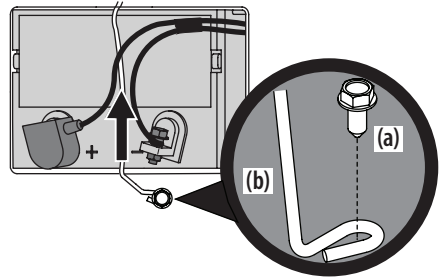

Figure 14
3. Remove the hex washer screw (a) securing the battery hold-down rod (b) to the frame. Then flip the battery hold-down rod (b) up to free the battery. See Figure 14.